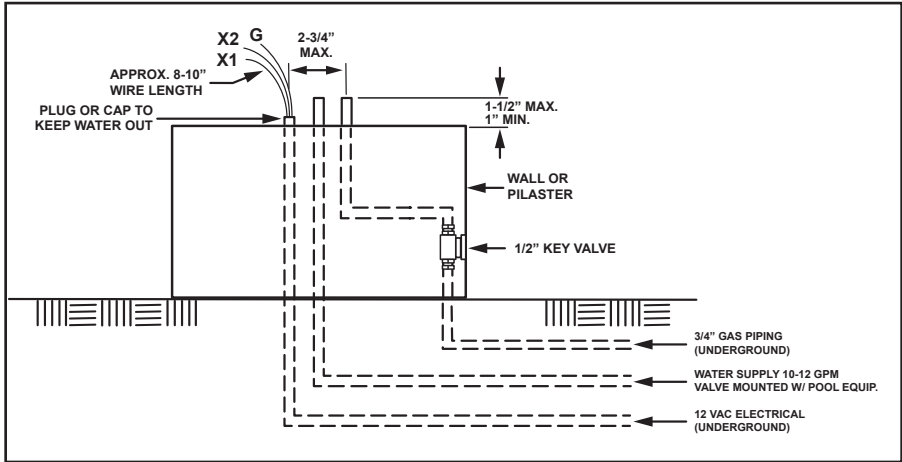

Figure 3. Piping
1. The piping must be reduced to ½" NPT or larger at each bowl, as shown in Figure 3.